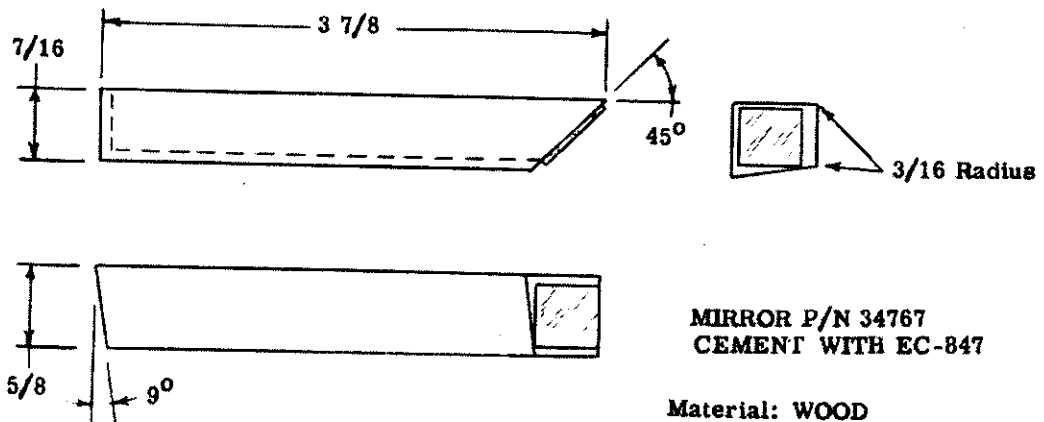

Figure 2. LAMP ALIGNING BLOCK
b. Lamp aligning block (figure 2), used to simplify focusing of Rangefinder.